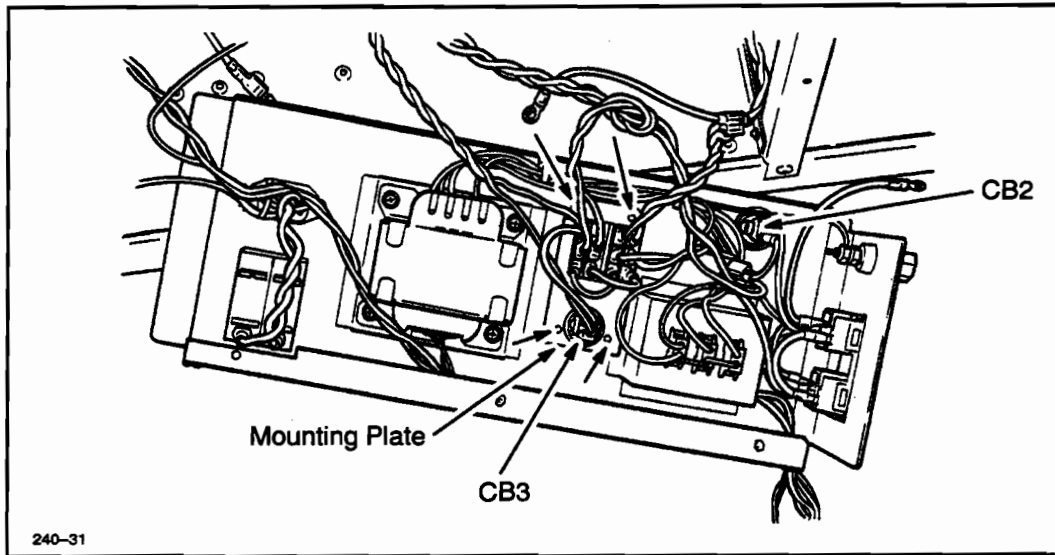

Figure 6-31. CB2 and CB3 Removal
If replacing CB3, remove the four mounting plate screws. See Figure 6-31.
3. Disconnect the wiring from the selected circuit breaker. See Figure 6-31.